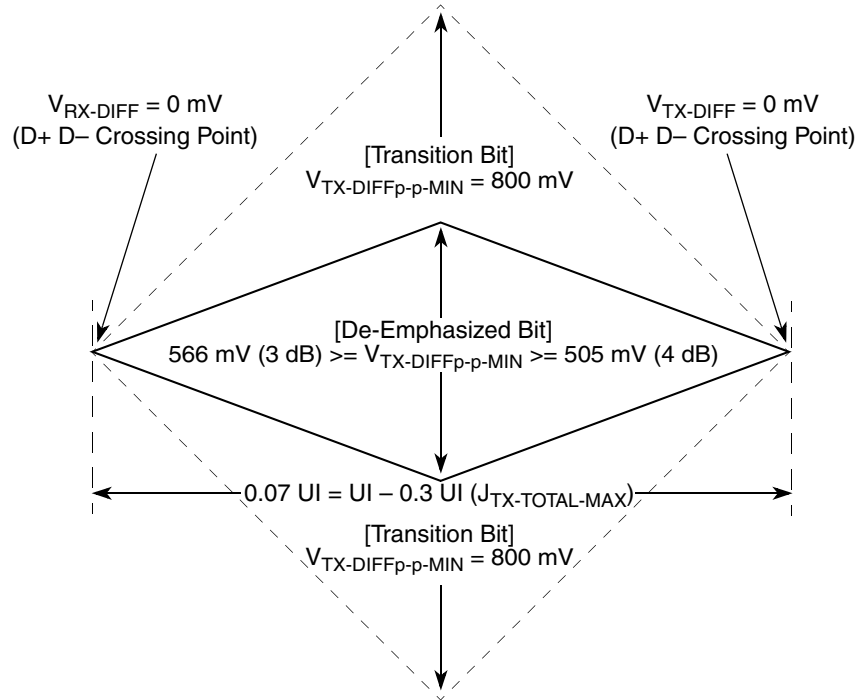
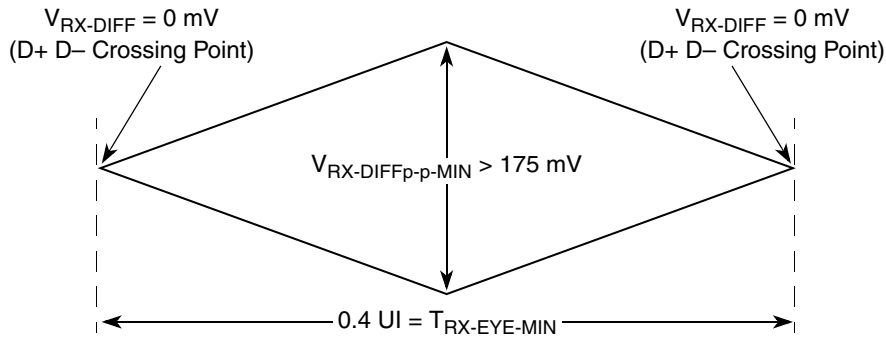
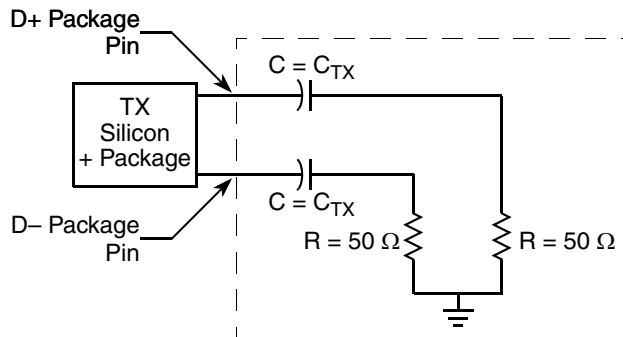

Figure 52. Minimum Transmitter Timing and Voltage Output Compliance Specifications
Figure 53. Minimum Receiver Eye Timing and Voltage Compliance Specification
Figure 54. Compliance Test/Measurement Load
2. Specified at the measurement point into a timing and voltage compliance test load as shown in Figure 54 and measured over any 250 consecutive TX UIs. (Also refer to the transmitter compliance eye diagram shown in Figure 52.)
4. The transmitter input impedance shall result in a differential return loss greater than or equal to 12 dB and a common mode return loss greater than or equal to 6 dB over a frequency range of 50 MHz to 1.25 GHz. This input impedance requirement applies to all valid input levels. The reference impedance for return loss measurements is 50 Ω to ground for both the D+ and D- line (that is, as measured by a vector network analyzer with 50- Ω probes—see Figure 54.) Note that the series capacitors C_{TX} is optional for the return loss measurement.
5. Measured between 20%–80% at transmitter package pins into a test load as shown in Figure 54 for both $V_{\text{TX-D+}}$ and $V_{\text{TX-D-}}$.
The TX eye diagram in Figure 52 is specified using the passive compliance/test measurement load (see Figure 54) in place of any real PCI Express interconnect +RX component.
2. Specified at the measurement point and measured over any 250 consecutive UIs. The test load in Figure 54 should be used as the RX device when taking measurements (also refer to the receiver compliance eye diagram shown in Figure 53). If the clocks to the RX and TX are not derived from the same reference clock, the TX UI recovered from 3500 consecutive UI must be used as a reference for the eye diagram.
4. The receiver input impedance shall result in a differential return loss greater than or equal to 15 dB with the D+ line biased to 300 mV and the D- line biased to -300 mV and a common mode return loss greater than or equal to 6 dB (no bias required) over a frequency range of 50 MHz to 1.25 GHz. This input impedance requirement applies to all valid input levels. The reference impedance for return loss measurements for is 50 Ω to ground for both the D+ and D- line (that is, as measured by a vector network analyzer with 50- Ω probes, see Figure 54). Note that the series capacitors C_{TX} is optional for the return loss measurement.
The RX eye diagram in Figure 53 is specified using the passive compliance/test measurement load (see Figure 54) in place of any real PCI Express RX component.
In general, the minimum receiver eye diagram measured with the compliance/test measurement load (see Figure 54) will be larger than the minimum receiver eye diagram measured over a range of systems at the input receiver of any real PCI Express component. The degraded eye diagram at the input receiver is due to traces internal to the package as well as silicon parasitic characteristics which cause the real PCI Express component to vary in impedance from the compliance/test measurement load. The input receiver eye diagram is implementation specific and is not specified. RX component designer should provide additional margin to adequately compensate for the degraded minimum receiver eye diagram (shown in Figure 53) expected at the input receiver based on some adequate combination of system simulations and the return loss measured looking into the RX package and silicon. The RX eye diagram must be aligned in time using the jitter median to locate the center of the eye diagram.
The reference impedance for return loss measurements is 50 Ω to ground for both the D+ and D- line (that is, as measured by a vector network analyzer with 50-Ω probes, see Figure 53). Note that the series capacitors, CTX, are optional for the return loss measurement.
The AC timing and voltage parameters must be verified at the measurement point, as specified within 0.2 inches of the package pins, into a test/measurement load shown in Figure 54.